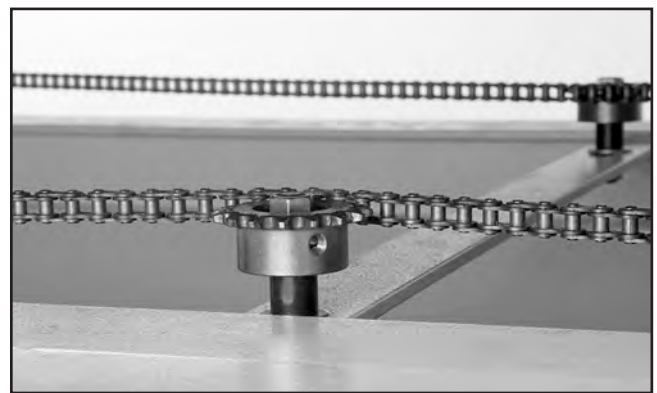

Figure 75. Adjustable idler sprocket.
5. Using two 14mm wrenches, loosen adjustable idler sprocket (see **Figure 75**).